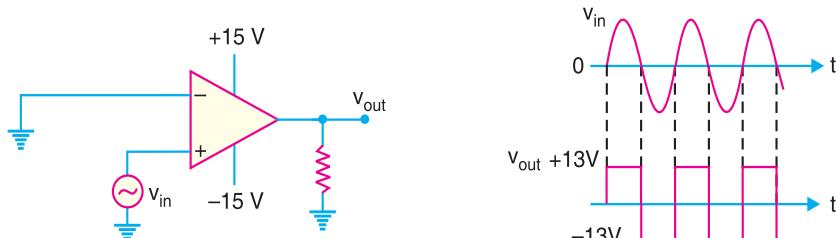

Fig. 25.95
2. As a zero-crossing detector. When one input of a comparator is connected to ground, it is known as zero-crossing detector because the output changes when the input crosses 0 V. The zero-crossing circuit is shown in Fig. 25.95. The input and output waveforms are also shown. When the input signal is positive-going, the output is driven to positive maximum value (i.e. $+V_{sat} = +13\text{ V}$). When the input crosses the zero axis and begins to go negative, the output is driven to negative maximum value (i.e. $-V_{sat} = -13\text{ V}$).